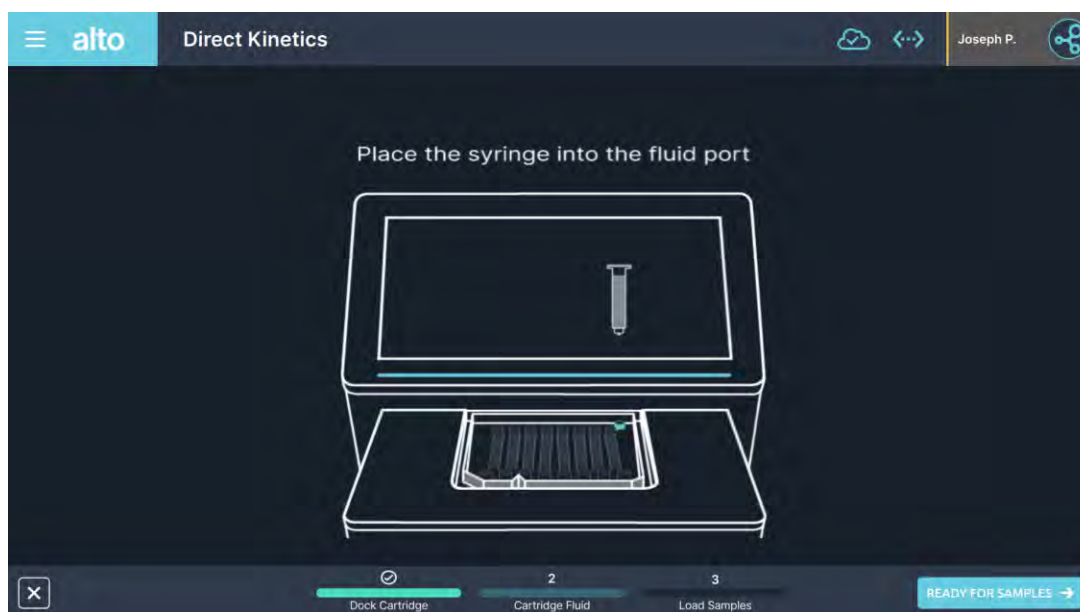

Figure 5.28: Cartridge fluid syringe loading into the fluid port on the cartridge.
- Once the cap is removed, load the cartridge fluid syringe in the fluid port as shown in the software prompt in Figure 5.28.